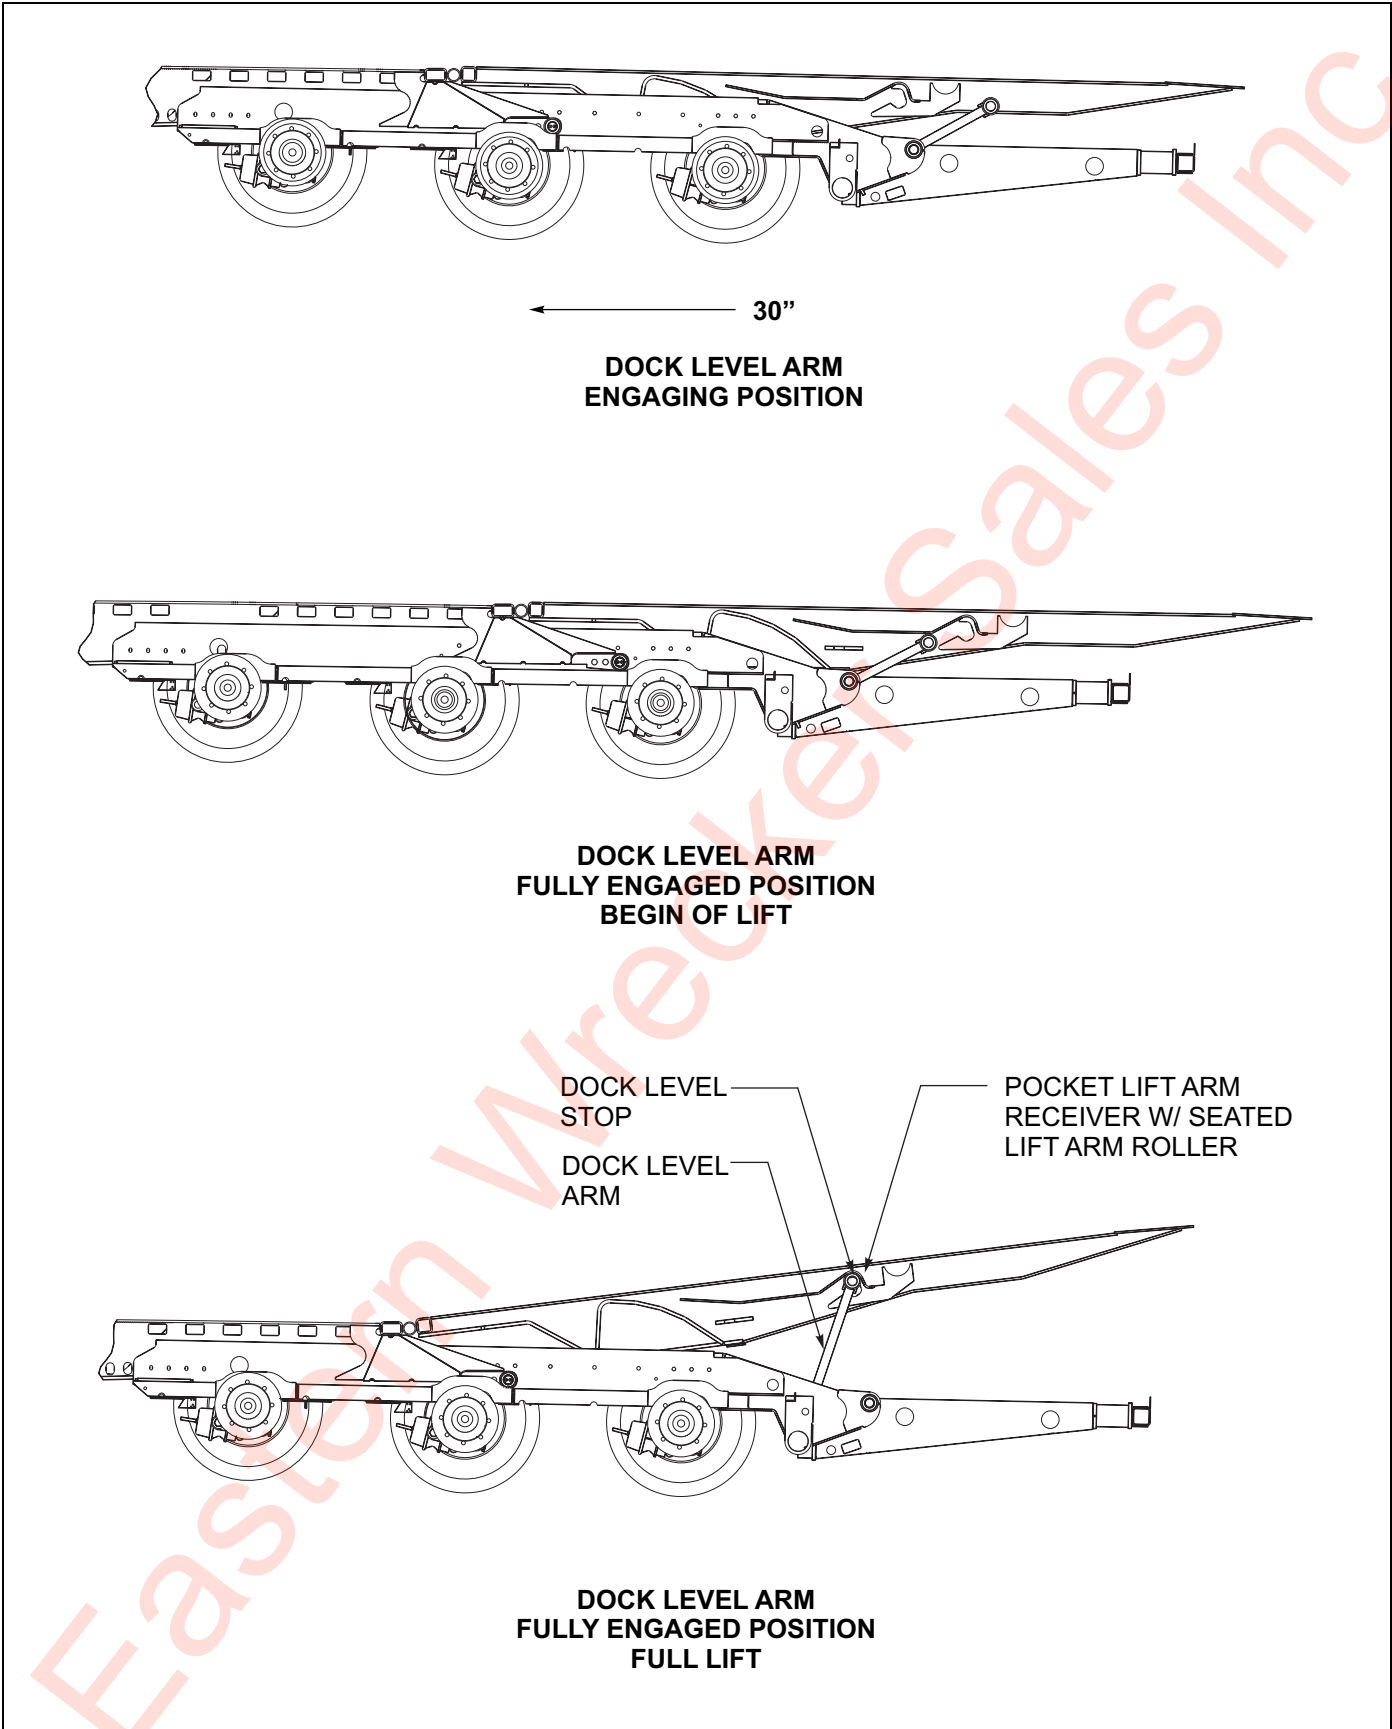

Figure 3-9: Dock Leveler Operation
6. Use Axle/Tail Control Lever to pull undercarriage forward approximately 30" (See Figure 3-9.)